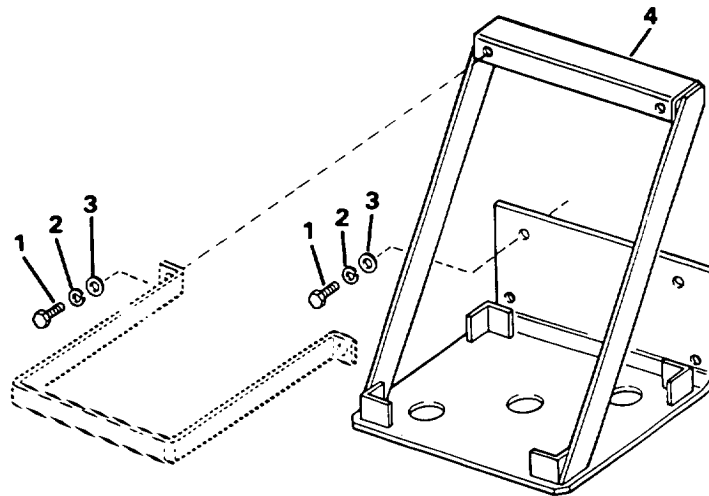

Figure 4-45. Hypochlorite Tank Frame
- a. Remove six screws (1, Figure 4-45), lockwashers (2) and flat washers (3).
- b. Remove tank bracket (4).
- a. Install new bracket (4).
- b. Install six screws (1), lockwashers (2) and flat washers (3).